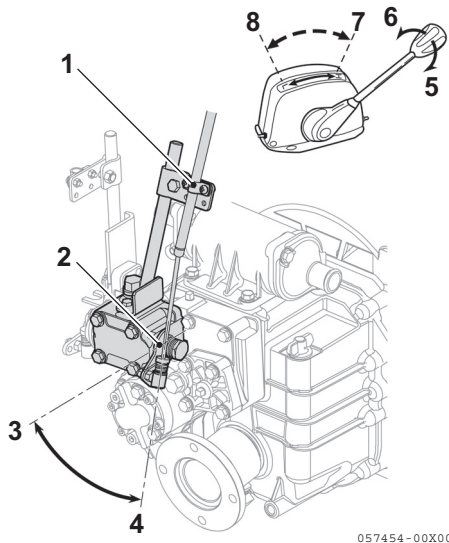

Figure 10
1. Ensure that the trolling lever (**Figure 10, (2)**) is in the high-speed (**Figure 10, (4)**) position when the trolling remote control handle is in high-speed position (**Figure 10, (7)**).
2. Ensure that the trolling lever is in the low-speed (**Figure 10, (3)**) position when the trolling remote control handle is in low-speed position (**Figure 10, (8)**).
3. To adjust, loosen the adjustment screw of the cable fitting (**Figure 10, (1)**) and adjust the position of the cable.